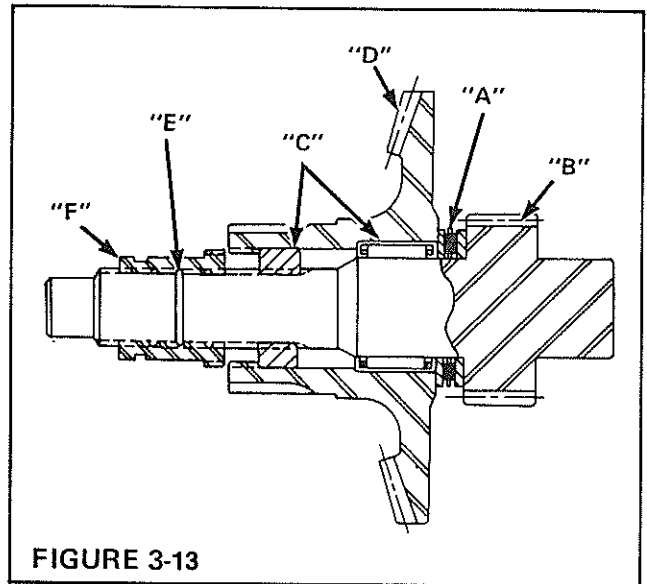
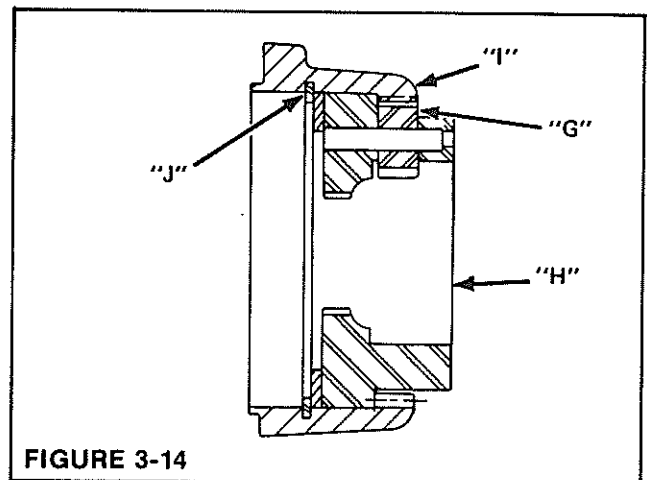

FIGURE 3-13
FIGURE 3-14
1. Speed thrust race, thrust bearing and another thrust race (A) Fig. 3-13 onto pinion shaft (B).
2. Place pinion shaft through roller and needle bearings (C) in bevel gear (D).
3. Carefully place positioning ring (E) in groove of pinion shaft. Be careful of over-stretching the ring.
4. Slide sliding gear (F) over the positioning ring into first detent. The groove for the shifter arm fork must be towards the end of the pinion shaft.
5. Place planetary gears (G) Fig. 3-14 into planetary carrier (H) and secure in place with roll pins. Place the planet carrier assembly into internal ring gear (I). Install the large thrust washer behind the planet carrier and secure the assembly with large retaining ring (J).
6. Install the pinion shaft assembly, Figure 3-13, into the planet gear assembly, Figure 3-14.
The right side of the bevel gear must have a thrust bearing assembly. The cluster gear must have a thrust washer and the axle shaft a spacer and torrrington bearing assembly. Refer to Figure 3-13. After the bearings and spacers are